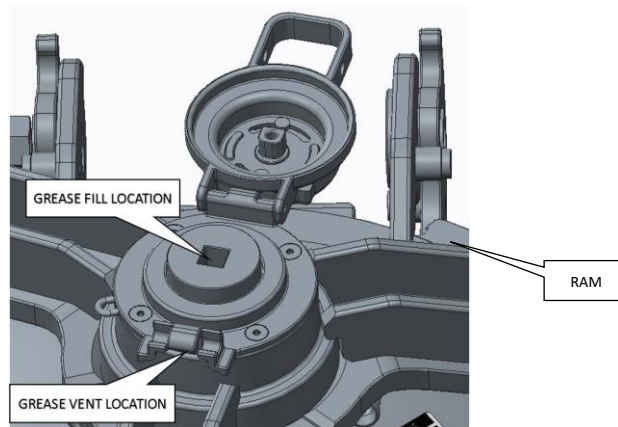

Figure 7 - Grease Fill and Vent Locations
- i. The ram is pre-greased at the factory; however, it can be re-greased as needed by pushing grease through a Zerk fitting at the bottom of the ram square socket (See figure 7).